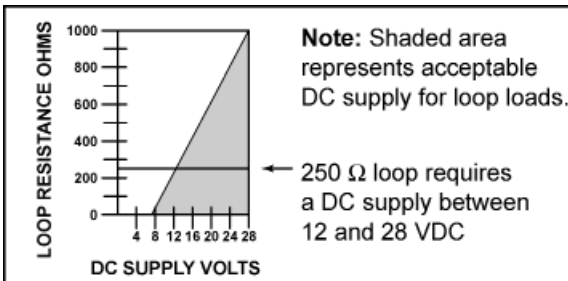

Figure 2 - Load Limitations (4-20 mA only)
- 4-20 mA into 1000 Ohms maximum (see **Figure 2**)